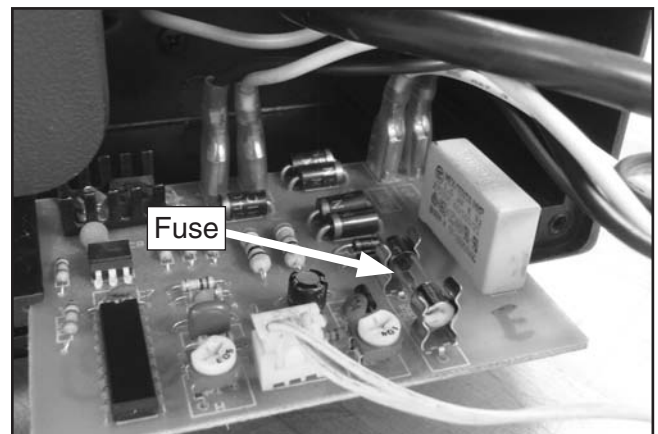

Figure 35. Location of fuse on circuit board.
2. Remove the switch cover, slide the circuit board partially out, remove the fuse (**Figure 35**), and install a new one.